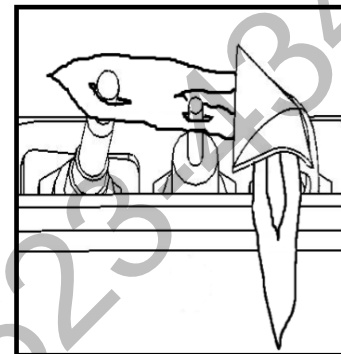

FIG. 2
4. Wait five (5) minutes to clear out any gas. Then smell for gas including near the floor. If you smell gas, STOP! Follow "B" in the safety information above. If you don't smell gas, proceed to step 5.
6. Continuing beeps confirm the ignition is in process. Once lighting the pilot flame should appear as shown in Fig.2. Once the pilot is confirmed, the main burner ignites on high.
For your safety, this appliance is fitted with a flame supervision device which will shut-off the gas supply if, for any reason, the pilot flame goes out. This device incorporates a fixed probe, which senses the heat from the pilot flame. If the probe is cool, the device will prevent any gas flow unless manually lighting the pilot. See full lighting instructions. Periodically check the pilot flame and compare to figure 2 above.